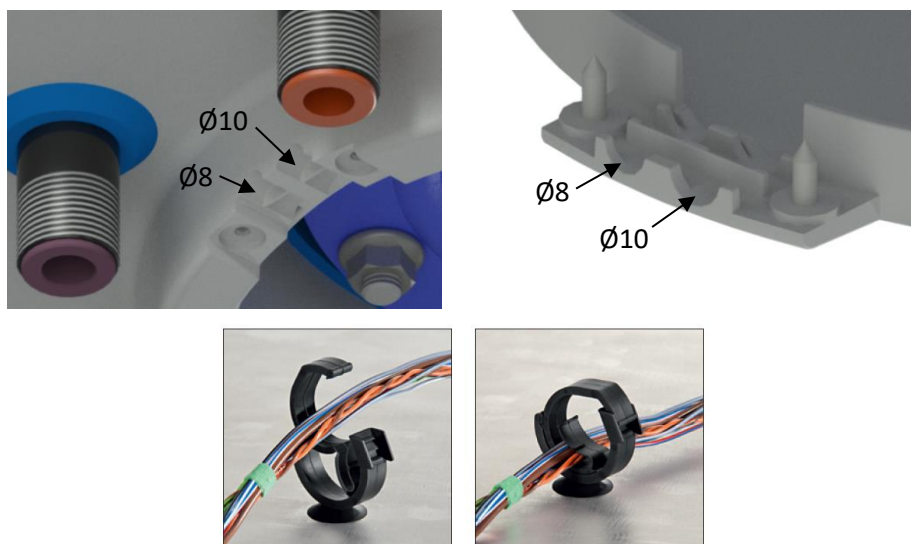
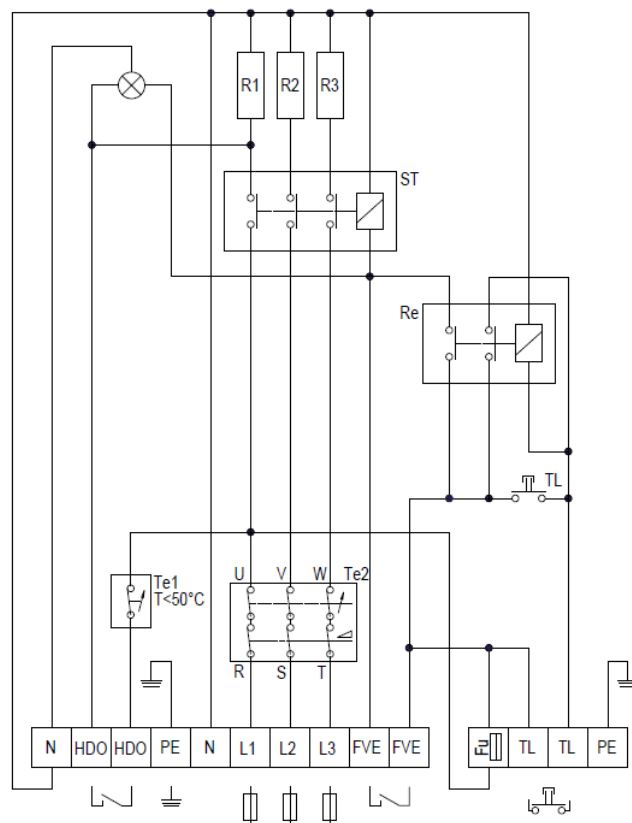

Figure 8
Figure 9
Execute the connection as indicated in the wiring diagram. Factory connection must not be changed! (Figure 9). In the electric wiring cabinet remove the partition corresponding with the input wire diameter of $\varnothing 8$ or $\varnothing 10$ (Figure 8). The degree of protection of electric parts of the heater is IP 44. Power input of electric element is 3x2000 W. Use pre-installed brackets to hold the lead cable.
- The wiring diagram is also attached to the heater on the side of the electrical installation guard (Figure 9).